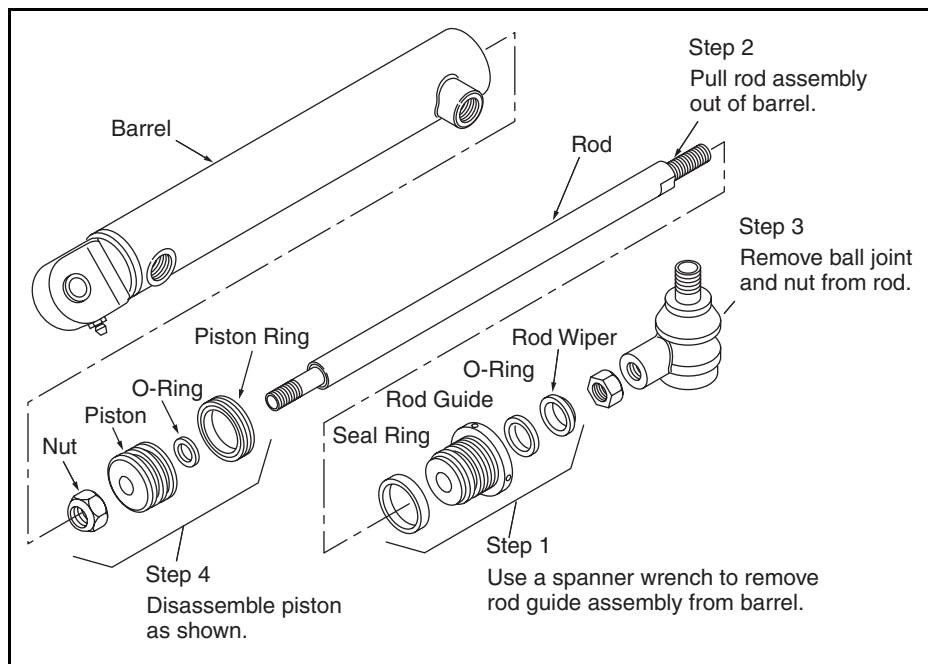

Figure 6D-3. Steering Cylinder Disassembly
1. Install the seal kit as shown in Figure 6D-5.